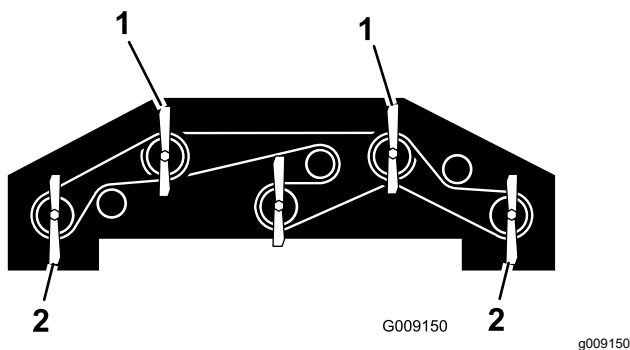

Figure 136
1. Rotate each blade so that they point straight forward (Figure 136).